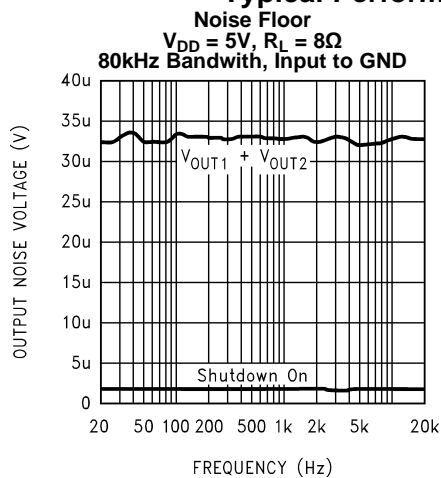

Figure 10.
- (1) Absolute Maximum Ratings indicate limits beyond which damage to the device may occur. Operating Ratings indicate conditions for which the device is functional, but do not ensure specific performance limits. Electrical Characteristics state DC and AC electrical specifications under particular test conditions which ensure specific performance limits. This assumes that the device is within the Operating Ratings. Specifications are not ensured for parameters where no limit is given; however, the typical value is a good indication of device performance.
- (2) If Military/Aerospace specified devices are required, please contact the Texas Instruments Sales Office/ Distributors for availability and specifications.
- (3) If the product is in Shutdown mode and V_{DD} exceeds 6V (to a max of 8V V_{DD}), then most of the excess current will flow through the ESD protection circuits. If the source impedance limits the current to a max of 10mA, then the device will be protected. If the device is enabled when V_{DD} is greater than 5.5V and less than 6.5V, no damage will occur, although operation life will be reduced. Operation above 6.5V with no current limit will result in permanent damage.
- (4) The maximum power dissipation must be derated at elevated temperatures and is dictated by T_{JMAX}, θ_{JA} , and the ambient temperature T_A. The maximum allowable power dissipation is P_{DMAX} = (T_{JMAX} – T_A)/ θ_{JA} or the number given in Absolute Maximum Ratings, whichever is lower. For the LM4906, see Figure 10 for additional information.
- (5) Maximum power dissipation in the device (P_{DMAX}) occurs at an output power level significantly below full output power. P_{DMAX} can be calculated using Equation 1 shown in the Application Information section. It may also be obtained from the power dissipation graphs.
- (6) Human body model, 100pF discharged through a 1.5k Ω resistor.
- (7) Machine Model, 220pF–240pF discharged through all pins.